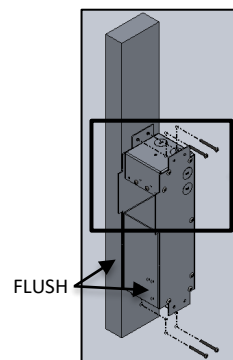

FIG. 8- J-BOX ASSEMBLY TO WALL
4. Attach RECESSED JUNCTION BOX to WALL STUD or CEILING JOIST at desired height and location before drywall is installed as shown below in FIG.8. Use appropriate anchor screws to secure to stud.